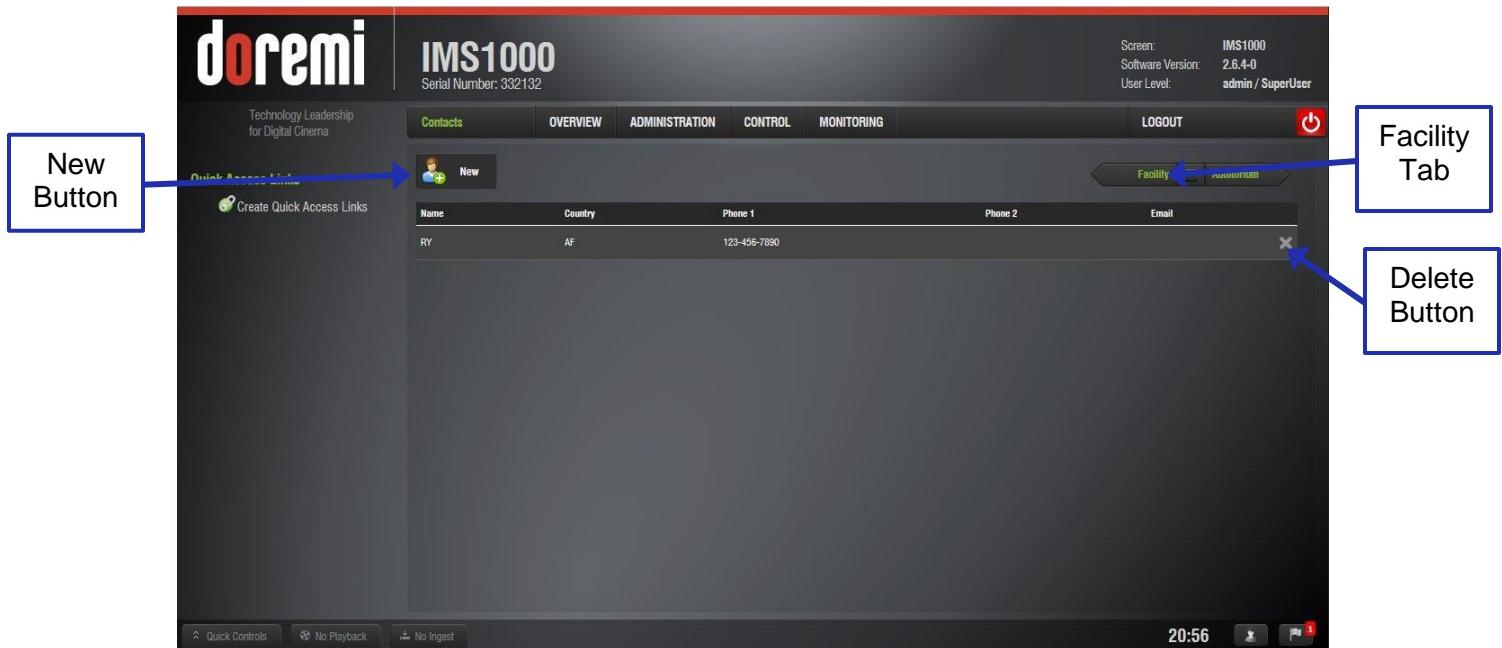

Figure 176: Contacts Tab
Here the user can input the information of the appropriate contact for the facility (Figure 176).
- Click on the New button (Figure 176).
- To delete a contact, hover over it and click on the X that appears on the right (Figure 176).
The access the Facility tab, use the arrow at the right side of the Theater Properties tab (Figure 176).